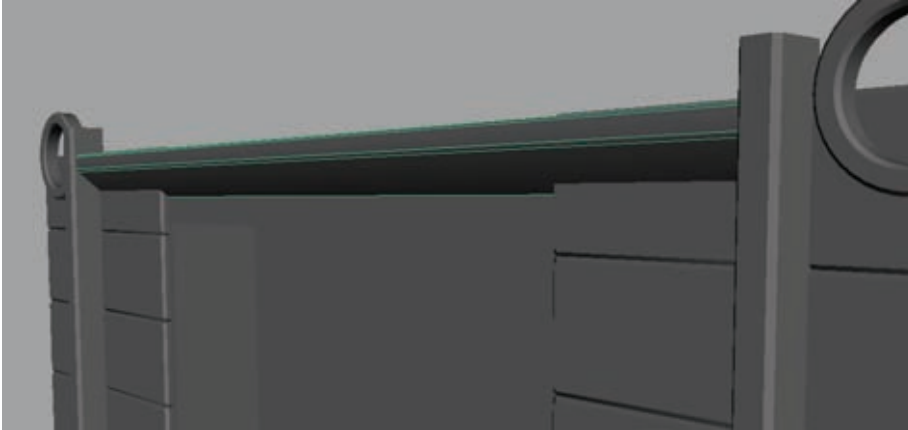

Figure 5.5
15. Select the bottom edge of the front-facing side of this new cube and pull it up, creating a wedge shape. Bevel the two front-facing edges. This cube will serve as a frieze, which is a structural band that runs along the tops of doors or windows. You should have something like Figure 5.5.